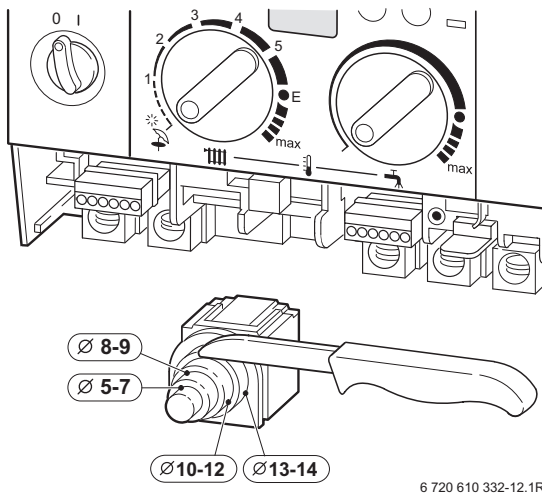

Fig. 26
- To make splash-water proof (IP): cut the cable grommet hole size to match diameter of cable, see Fig. 26.